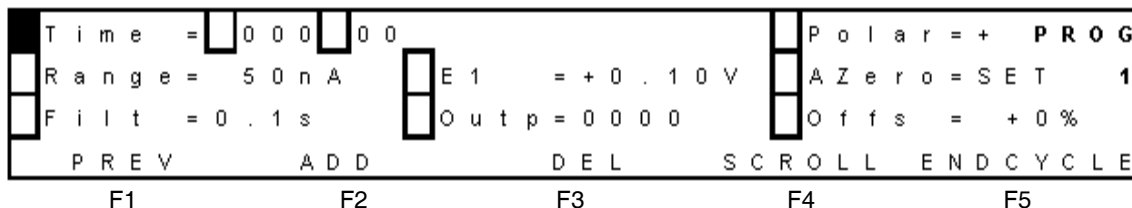

Figure 3-52 Prog Screen After Changing Line 1
- d. Select **F2 YES**. The Prog screen appears (Figure 3-52).